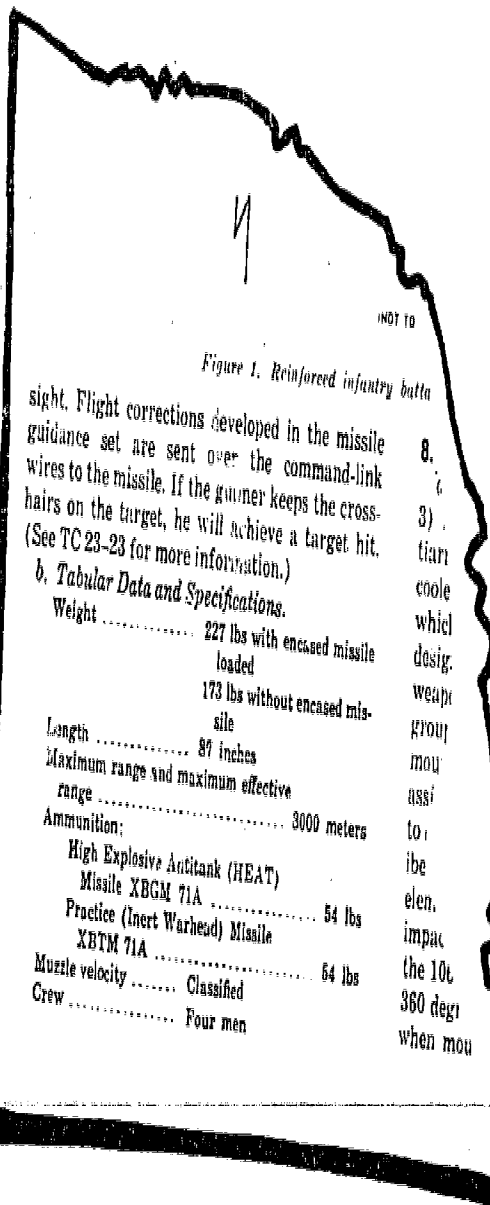

Figure 1. Reinforced infantry batta
ons depicted in figure 1. In addi-
able illustrated in figure 1. Note that as the
b. The long range and high rates of fire available with 20mm and .50 caliber machineguns are ideal complements to the HAW, MAW, and LAW antiarmor weapons depicted in figure 1. In addition to the light armor piercing capability of both guns, the 20mm, as presently mounted on the M114A1, has high explosive ammunition. The AP or HE will suppress infantry which either accompanies tanks or deploys from troop carriers, while the heavy volume of fire available from either the 20mm or .50 caliber machinegun will cause armored vehicle crewmen to hunker up and become more vulnerable to the HAW, MAW, and LAW. The .50 caliber machinegun, M2, has a cyclic rate of fire of 450 to 550 rounds per minute and a maximum effective range of 1825 meters against ground targets. The 20mm M189 Automatic Gun has a cyclic rate of fire of 800 to 1050